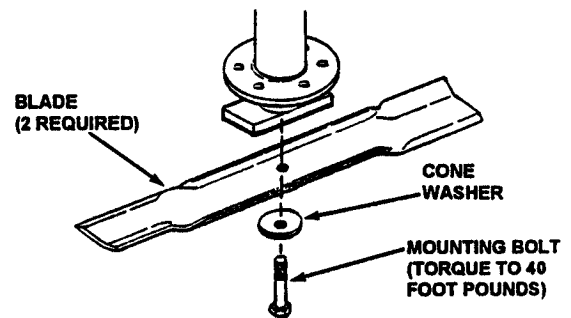

FIGURE 35
3. Remove Blade(s) Mounting Bolt(s) and Cone Washer(s) from each Blade and remove Blades to sharpen or replace as needed. See Figure 35.
2. Tighten the Blade Mounting Bolt to torque specified as shown in Figure 35.
Re-install Cone Washers and tighten Mounting Bolts on 42" Cutting Decks to 40 ft. lbs. torque value. Refer to Figure 35 for 42" Cutting Decks.